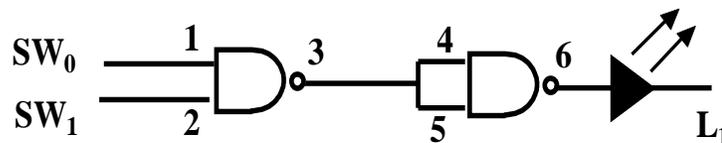

Fig 1.3
- A3. Wire the circuit shown in Fig. 1.3. With SW_0 and SW_1 , apply the states shown in table 3A. Record the output state for each set of input states by observing the LED display L_1 .